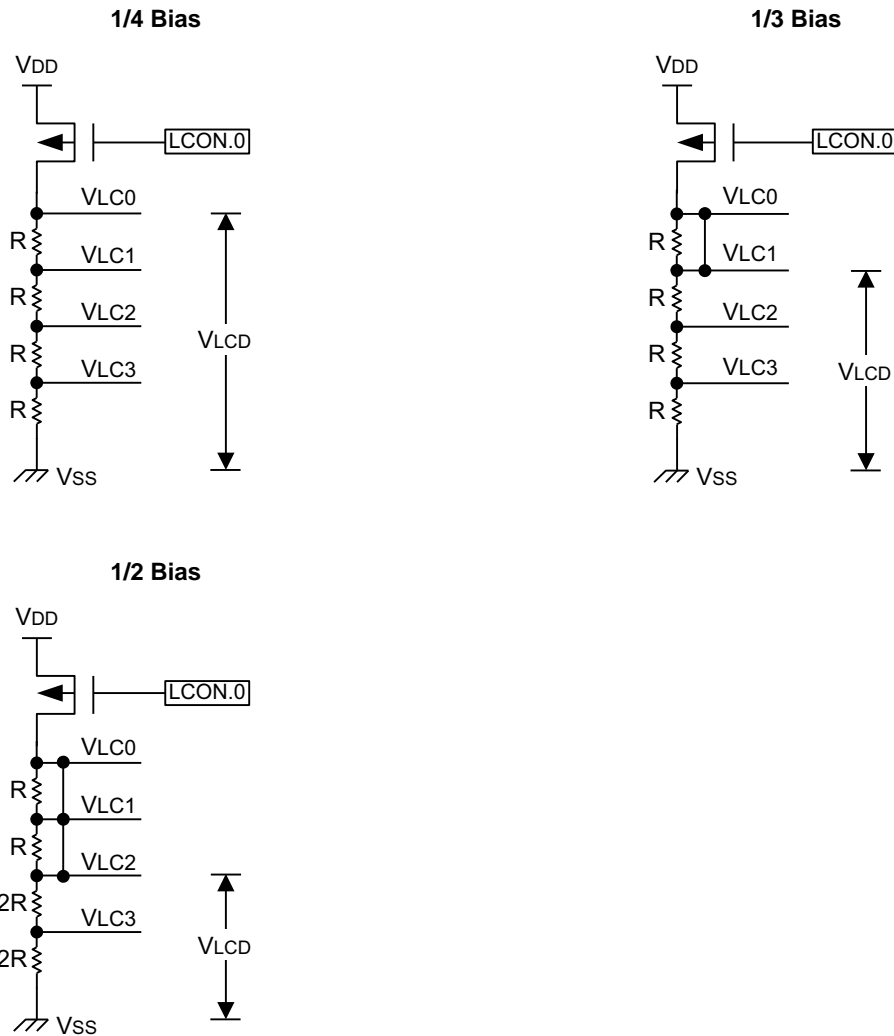

Figure 88. Internal Resistor Bias Pin Connections
Figure 88 shows the internal bias connections.
► **Note:** In Figure 88, V_{LC0} and V_{LC1} should be connected at 1/3 bias; V_{LC0} , V_{LC1} , and V_{LC2} should be connected at 1/2 bias.